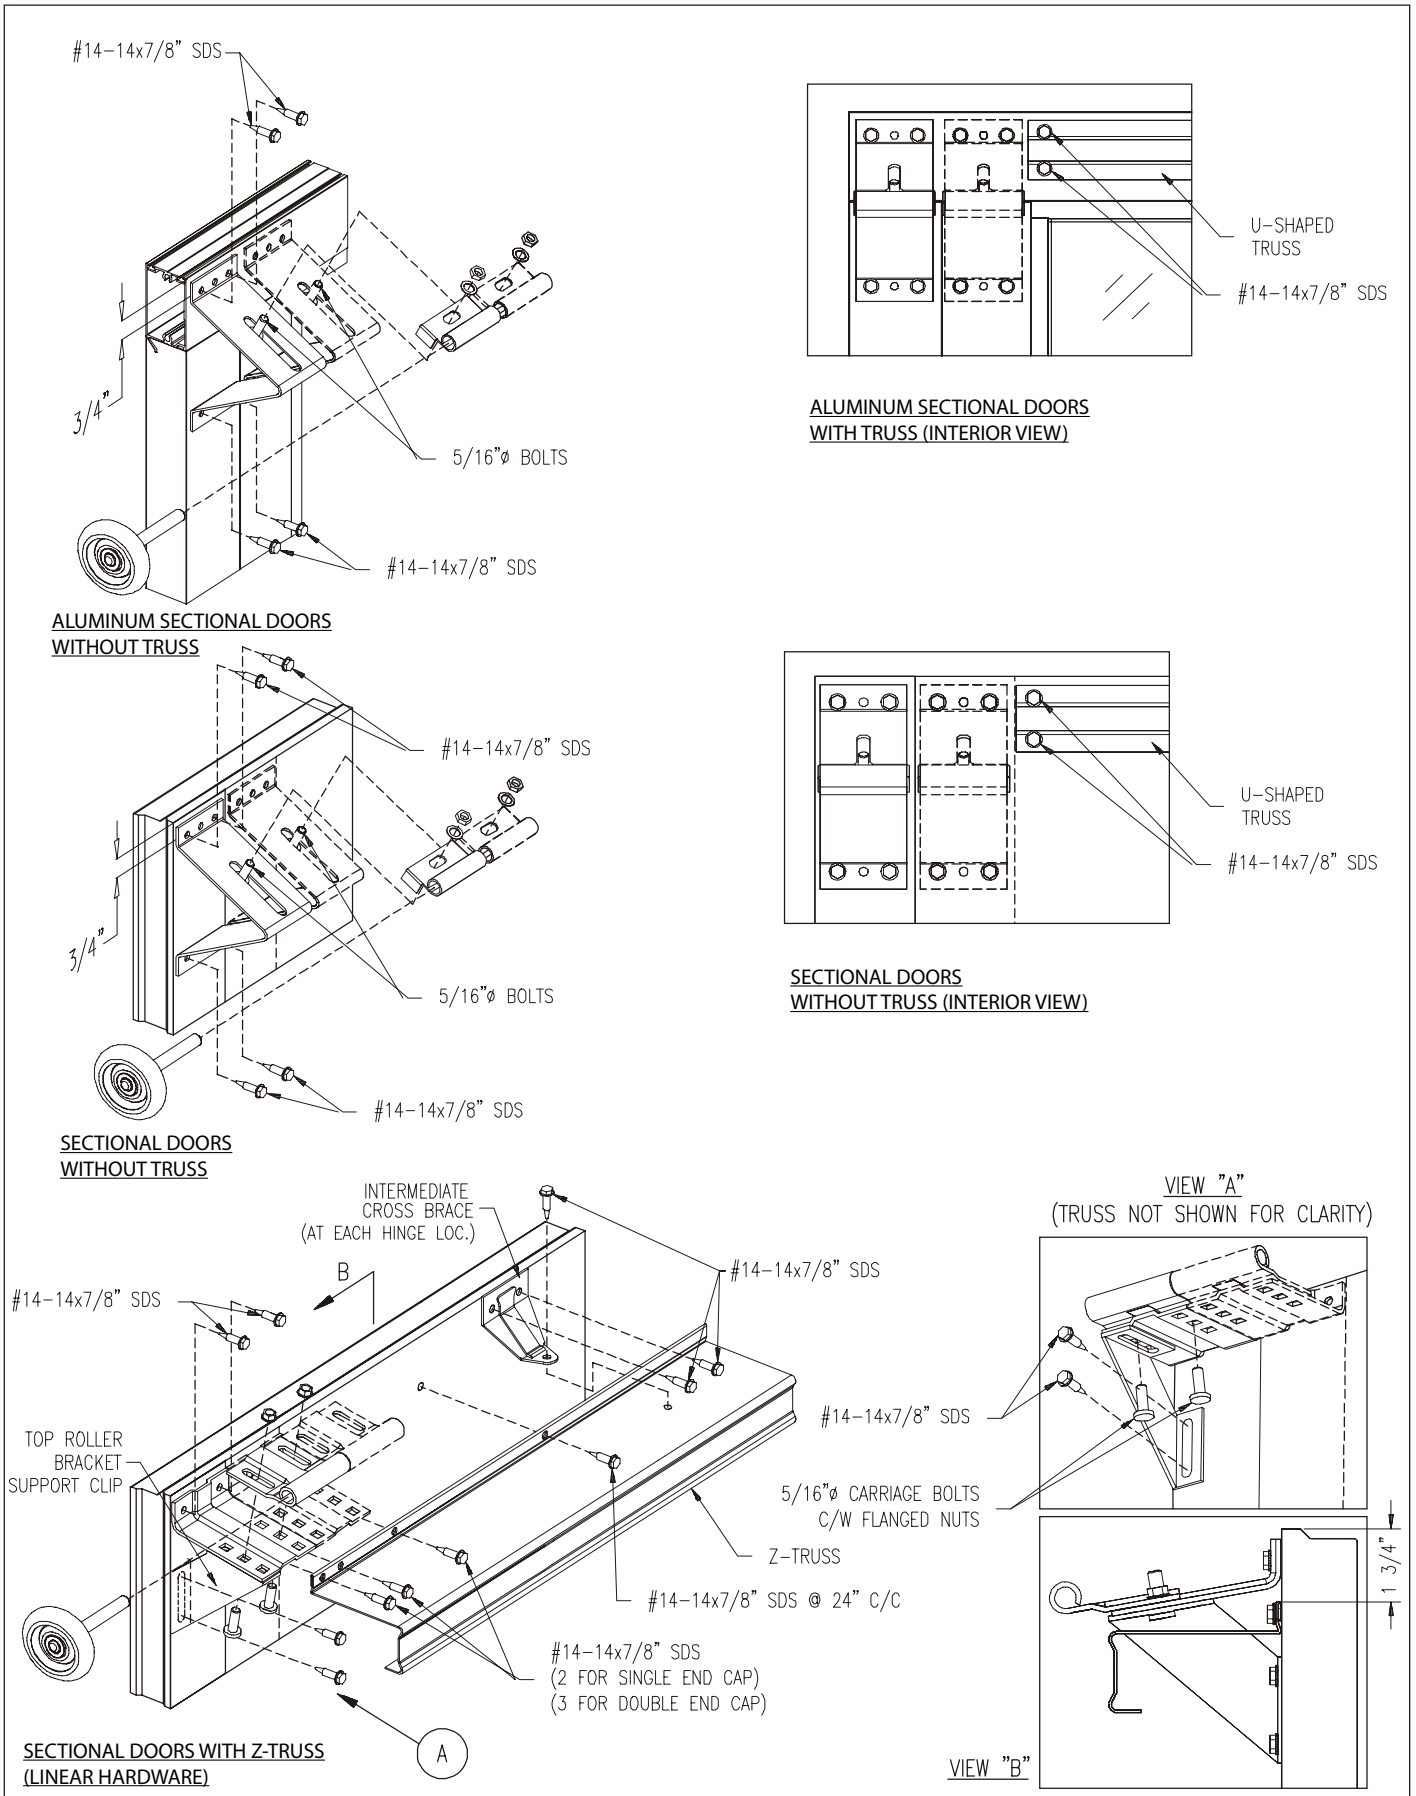

FIG. 6
LAY TOP SECTION ACROSS THE SAW HORSES WITH THE EXTERIOR SIDE DOWN. IDENTIFY, LOCATE AND ATTACH TOP ROLLER BRACKET(S) AND U-SHAPED TRUSS OR STRUT AS SHOWN IN FIG.6 .
IF THE DOOR HAS BEEN SUPPLIED WITH LINEAR HARDWARE, ATTACH Z-TRUSS TO THE TOP OF SECTION AND TO INTERMEDIATE CROSS-BRACE VERTICALLY ALIGNED WITH TRUSS CENTER HINGES. THEN LOCATE PREASSEMBLED TOP ROLLER BRACKET(S) WITH SUPPORT CLIP AND ATTACH TO THE TOP OF SECTION WITH FASTENERS PROVIDED, SEE FIG.6.